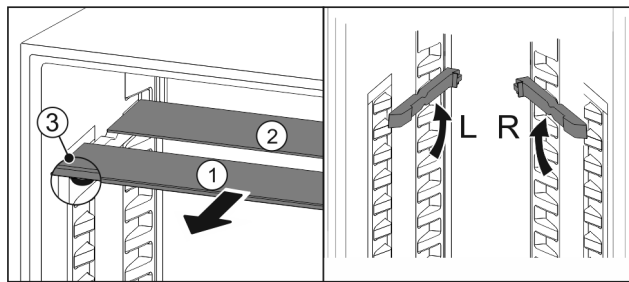

Fig. 80
- Pull the glass panels out Fig. 80 (1) from the front, one at a time.
- The glass panel Fig. 80 (1) and trim strip are at the front.
- The stops Fig. 80 (3) point down.